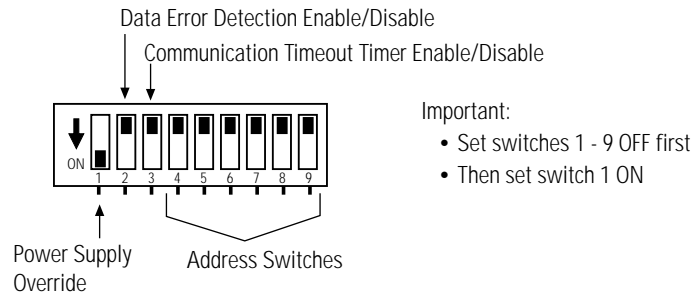

Figure 9.3 Example Switch Setting for Test Mode #1
- Use the hardware switch to force the gauge into test mode #1. This is done by first setting switches 1 through 9 to the OFF position, then by setting switch 1 to ON. Only set switch 1 to the ON position after the other switches have been set or the test mode will not be activated properly. See figure 9.3 for example switch settings to activate test mode #1.
6. Use the hardware switch to force the gauge into test mode #1. This is done by first setting switches 1 through 9 to the OFF position, then by setting switch 1 to ON. Only set switch 1 to the ON position after the other switches have been set or the test mode will not be activated properly. See figure 9.3 for example switch settings to activate test mode #1.
4. Use the hardware switch to force the gauge into test mode #1. This is done by first setting switches 1 through 9 to the OFF position, then by setting switch 1 to ON. Only set switch 1 to the ON position after the other switches have been set or the test mode will not be activated properly. See figure 9.3 for example switch settings to activate test mode #1.